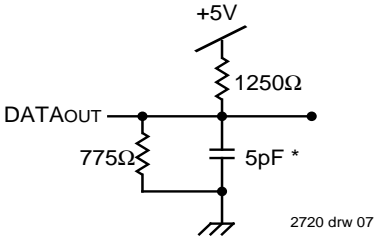

Figure 2. Output Test Load
1. Transition is measured $\pm 500\text{mV}$ from Low or High-impedance voltage with the Output Test Load (Figure 2).
- Transition is measured $\pm 500\text{mV}$ from Low or High-impedance voltage with Output Test Load (Figure 2).
1. Transition is measured $\pm 500\text{mV}$ from Low or High-impedance voltage with Output Test Load (Figure 2).